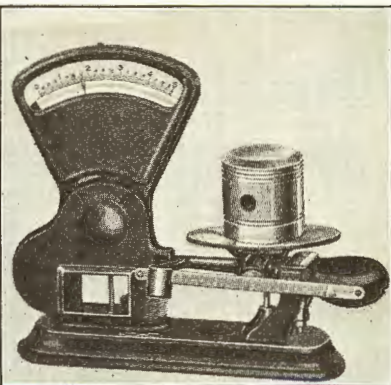

Fig. 241
- 405** When installing new pistons, select pistons which will insure all four of them being approximately the same weight. This can be done by weighing the pistons on a scale as shown in Fig. 241.